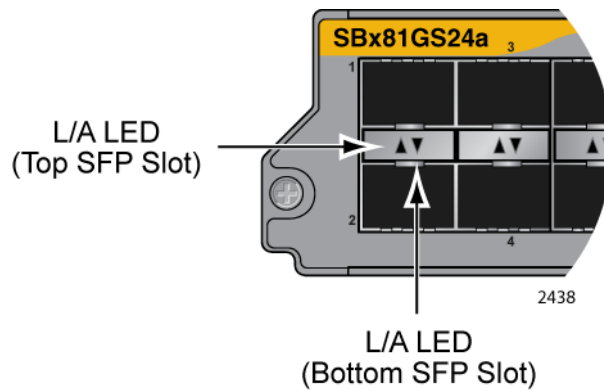

Figure 20. Port LEDs on the AT-SBx81GS24a SFP Line Card
**LEDs** The SFP slots on the AT-SBx81GS24a SFP Line Card have one LED each, as shown in Figure 20 on page 46 and described in Table 10 on page 46.